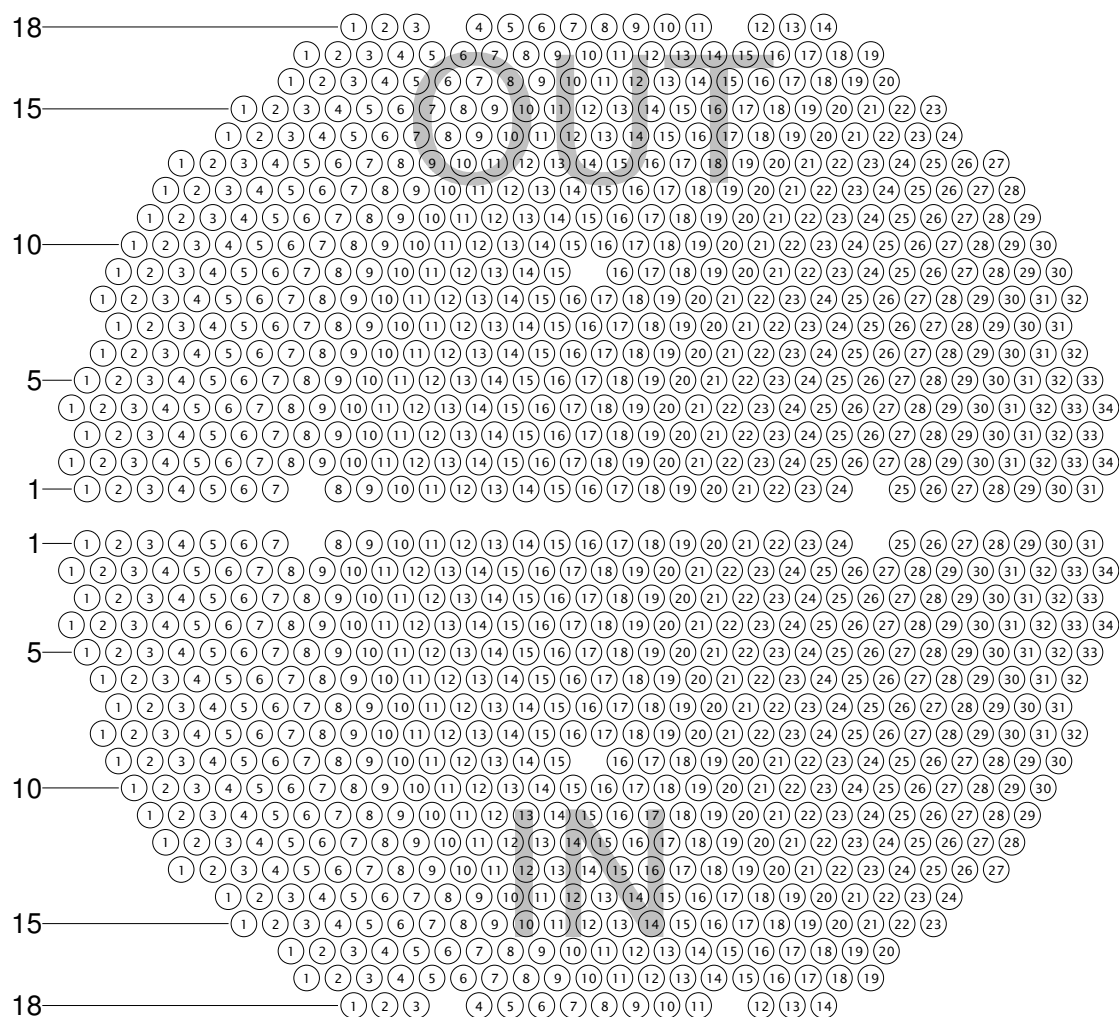

Figure 58. Tutorial Component (FWH3A)
For this tutorial, we will create a U-tubed feedwater heater showing both halves (legs) of the tube bundle. The intent is to inspect only the straight-lengths on each leg and we will setup the component file accordingly. Figure 58 shows the component that we'll build during this tutorial.
To build the component shown in Figure 58:
A building grid now appears based on the settings in the **Group Parameters** dialog. We'll now enable the group of tubes that exist in the lower half (inlet pass) of the feedwater heater. A printout of the page containing Figure 58 will be helpful for the remaining steps
- STEP 1:** Look at Figure 58. Counting the blank spaces in the first row on the lower half (IN), decide on the total number of tubes in row #1. You should come up with **33**.
- STEP 4:** Look at Figure 58 again. Decide on the total number of tubes in row #2. You should come up with **34**.
- STEP 9:** Click **OK** on the *Auto Tick Param* dialog. Row ticks now appear on every 5th row of the section, plus the *first* and *last* rows. Compare the tubesheet map on-screen to the lower half of Figure 58.